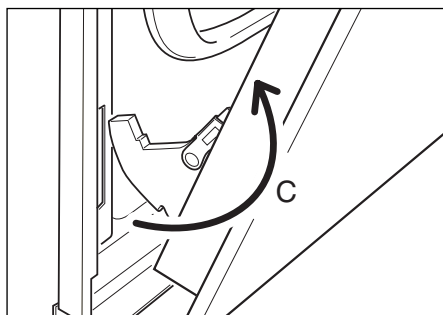

Fig.25e
- Withdraw the hinge hooks from their location following arrow "C" (Fig. 25e).